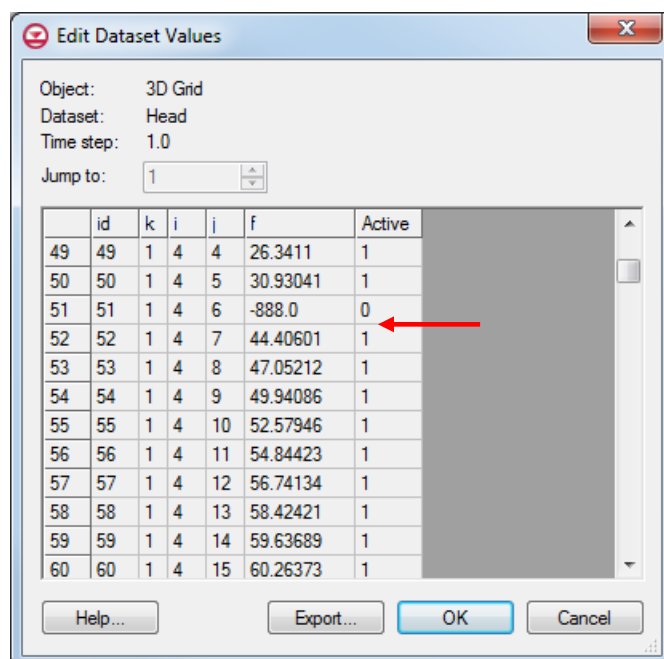

Figure 8 HDRY value in head solution
6. Scroll down to row 51 and notice the “-888” value in the *f* column for that cell. Also notice the “0” in the *Active* column (Figure 8).